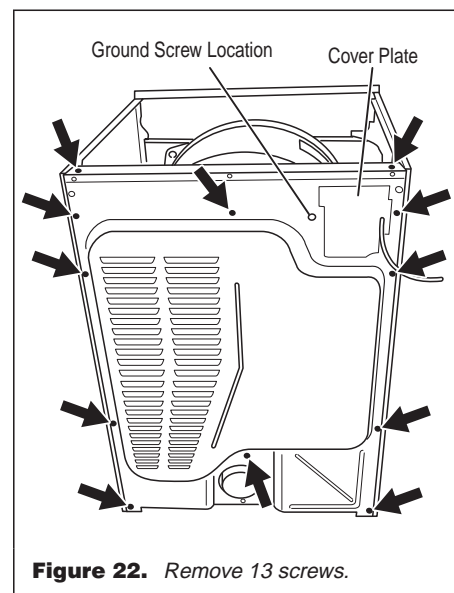

Figure 22. Remove 13 screws.
3. Remove two screws on the back panel's top edge, which connect the back panel to the side panels' top edges. See figure 22.